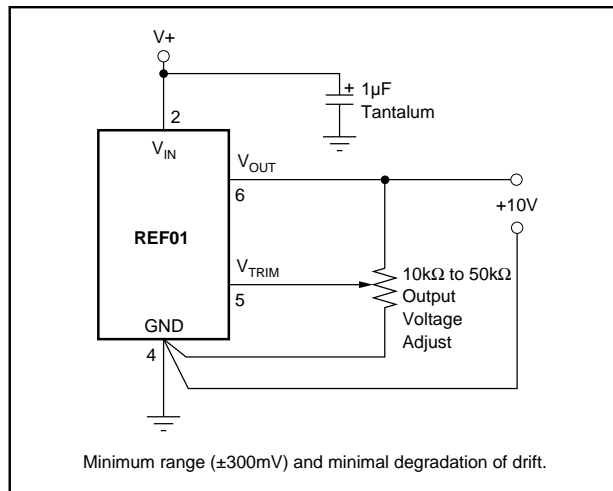

FIGURE 3. Optional Output Voltage Adjustment.
by the temperature range. (4) Line and load regulation specifications include the effect of self heating. (5) Sample tested. (6) 10kΩ potentiometer connected between V_O and ground with wiper connected to trim pin. See Figure 3.